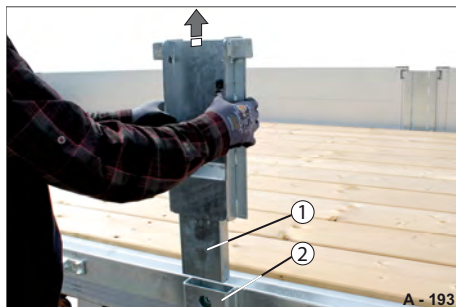

Fig. 134 Removing the middle post
- Pull the middle post (Fig. 134/1) out of the post pocket (Fig. 134/2).